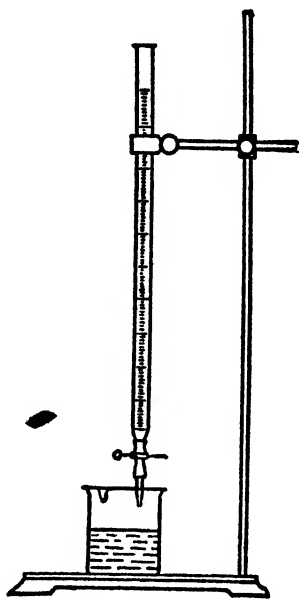

FIG. 5.
a. Fit a burette (Fig. 5) with a short piece of rubber tubing and glass nozzle (see Exercise 4 b). The withdrawal of liquid from the